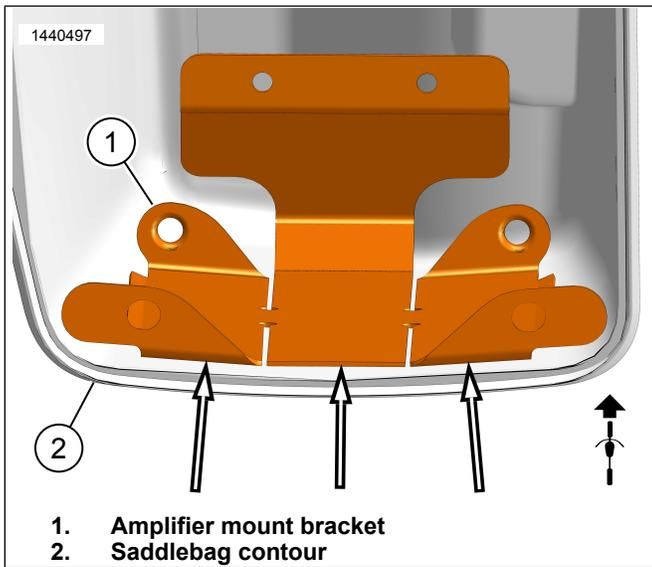

Figure 13. Saddlebag Contour
- b. Figure 13 Use slits in the mount bracket (1) to bend and conform to the saddlebag contour (2) without rocking. This will ensure better contact and adhesion with the tape. Do not peel tape at this time.